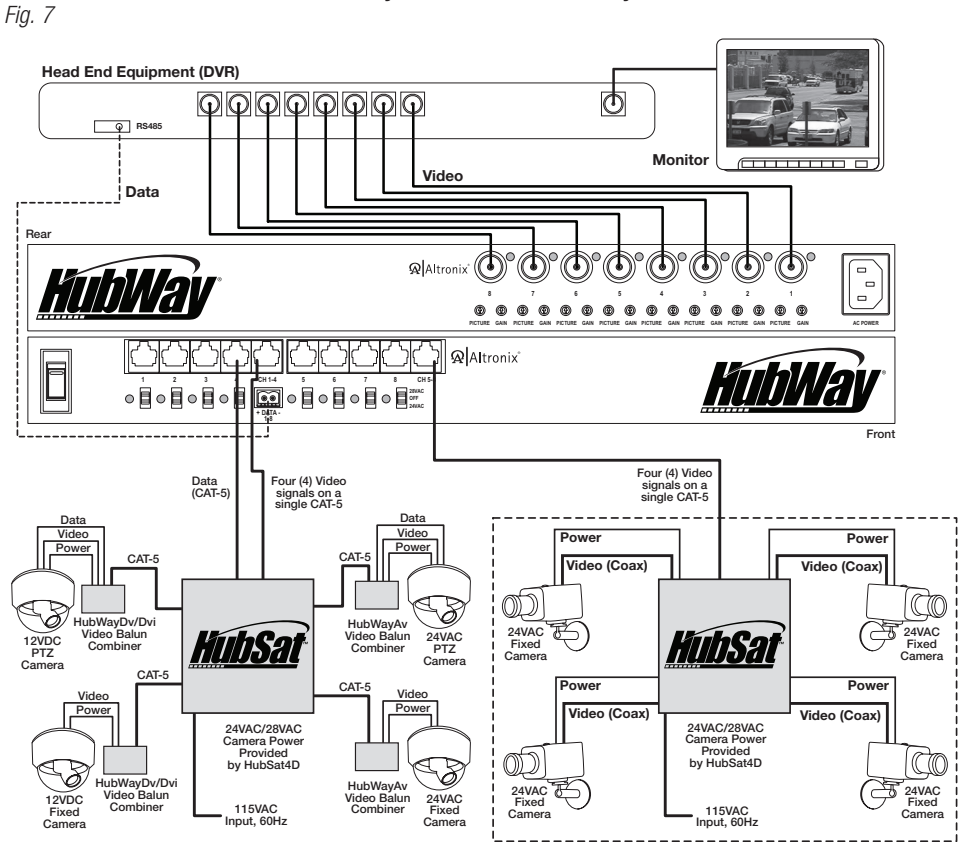

Fig. 7a - Alternate 24VAC fixed camera hookup.
Alternate 24VAC Fixed Camera Hookup (Fig. 7a, pg. 9).
2. Connect one end of the coaxial cable to the BNC connector marked [Video1] on HubSat (Fig. 1a, pg. 4). Connect the opposite end of the coaxial cable to the BNC video output of camera 1 (Fig. 7a, pg. 9).